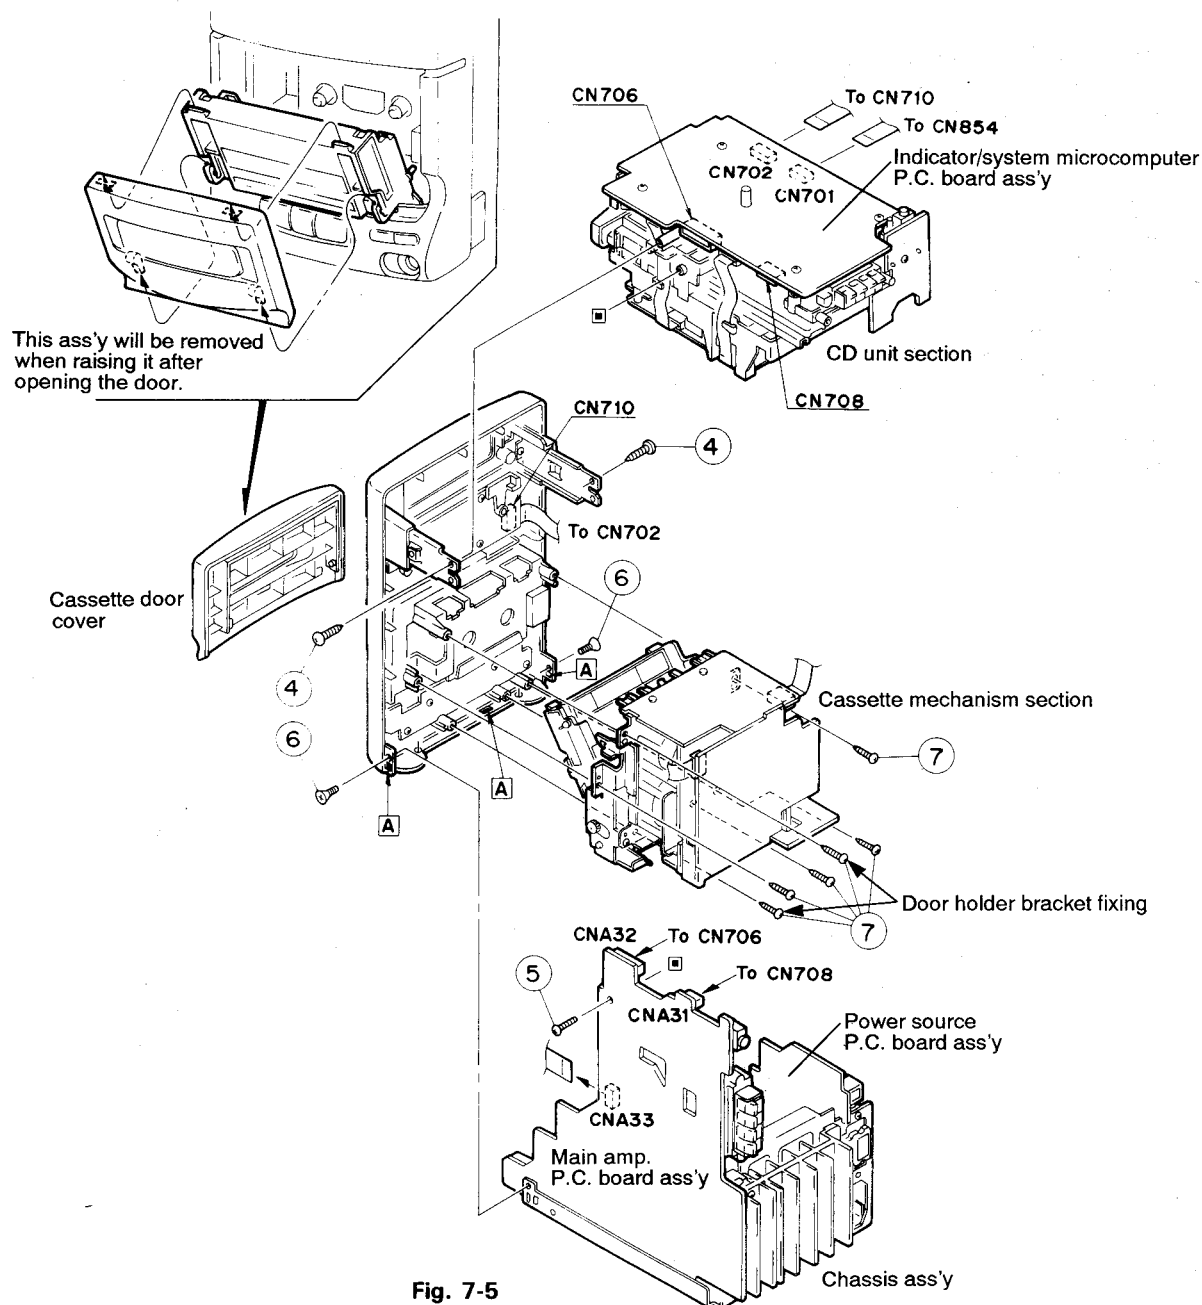

Fig. 7-5
■ How to Remove the CD Player Ass'y (Refer to Fig. 7-5)
2. From both sides of the body, remove the two screws (4) retaining the CD player ass'y.
5. Remove the one screw (5) retaining the CD player ass'y and main amplifier P.C. board.
■ How to Remove the Main Amplifier and Power Source P.C. Board (Refer to Fig. 7-5)
■ How to Remove the Cassette Mechanism Ass'y (Refer to Fig. 7-5)
4. Remove the five screws (7) retaining the cassette mechanism ass'y.